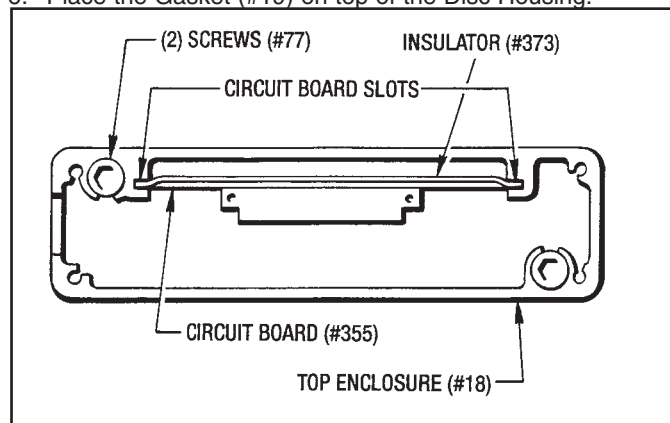

Figure 9.16 - Circuit Board Slots
8. While holding the Circuit Board upright slide the Upper Enclosure (#18) down over the Circuit Board onto the Disc Housing. Make sure the edges of the Circuit Board are in the (2) side retaining slots located in the Upper Enclosure. (See Figure 9.16)
9. Check the Gasket (#19) to see if it is still in place. Insert the (2) Screws (#77) and tighten down.
10. Slide the Insulator (#373) down and into the Upper Enclosure (#18) behind the Circuit Board (#355) placing the upper tabs into the circuit board slots. (See Figure 9.16)